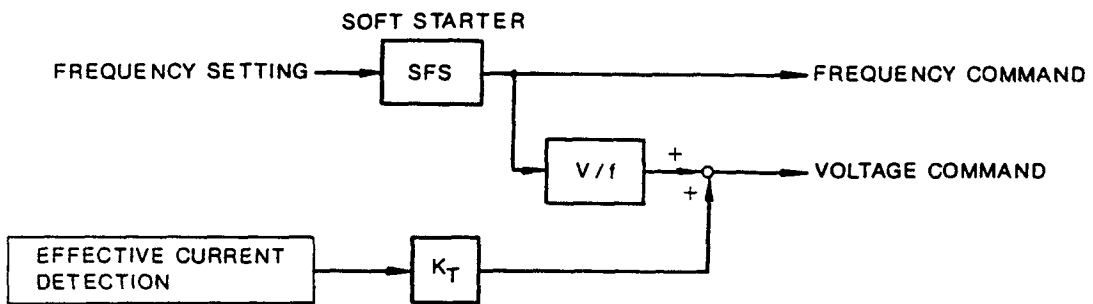

Figure 7. Torque Compensation Block Diagram
No. 05 - Torque Compensation Gain (KT). This constant is a gain factor used to match the Drive to the actual motor used (see Figure 7). It can be set in increments of 0.1. When the HP rating of the Drive is equal to the rating of the motor, the gain is 1.0. When a motor of lower HP is used, the gain can be set to a value greater than 1.0.